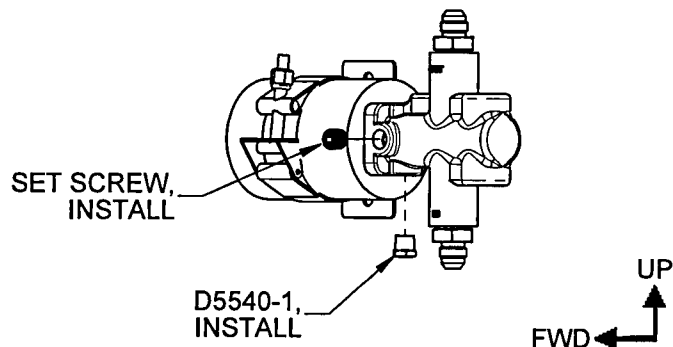

FIGURE 3: D5540-1 BREATHER VENT & SET SCREW INSTALLATION
3. Install removed set screw in place of red blanking plug per Figure 3. Torque to 2.5 in-lbs.
4. Install the D5540-1 Breather Vent in the lowest drain position (in place of removed set screw) per Figure 3. Torque to 2.5 in-lbs.